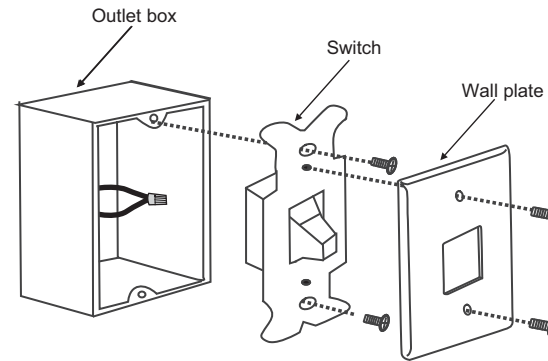

Fig. 22
Step 1. Remove the existing wall plate and the old switch from the wall outlet box. Wire nut the BLACK leads (hot) together and push back inside the outlet box. (Fig. 22)